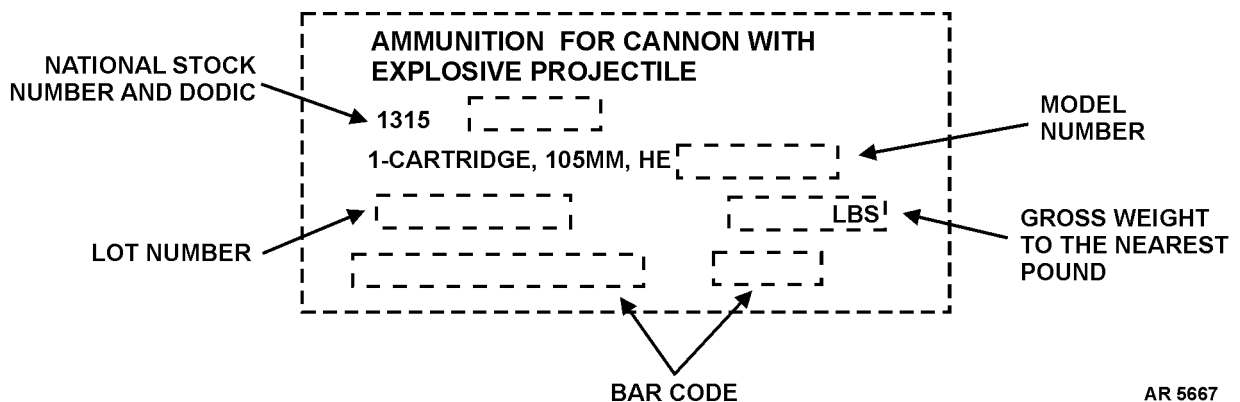

Figure 3-21. Markings on Metal Container for 105mm.
- a. Markings on Metal Container for 105mm: Howitzer Ammunition (fig. 3-21). The following are typical markings which must be legible on each container.